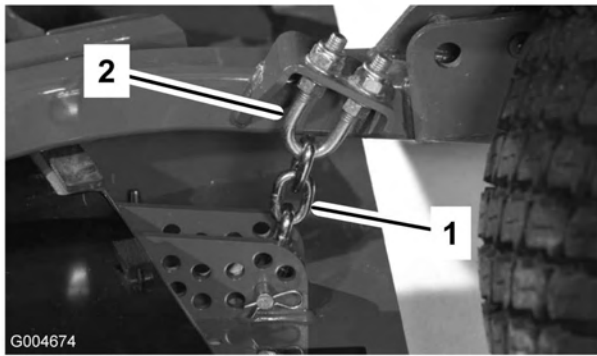

Figure 81
1. Loosen the jam nuts on the top or bottom of the height-of-cut chain U-bolt (Figure 81).